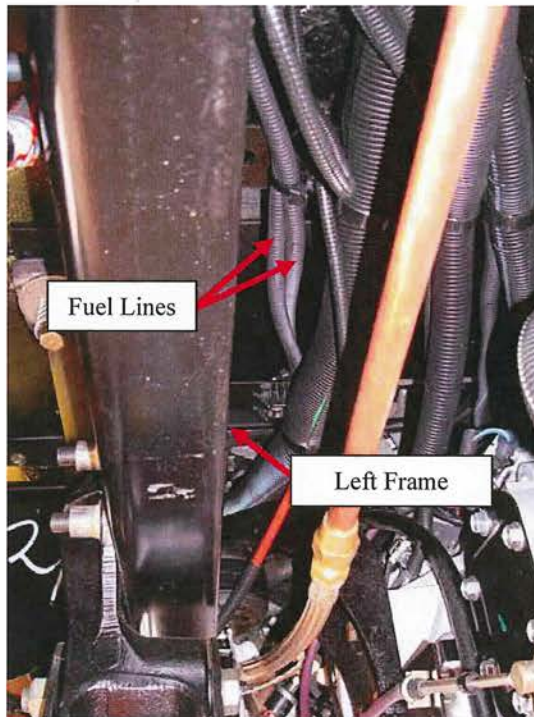
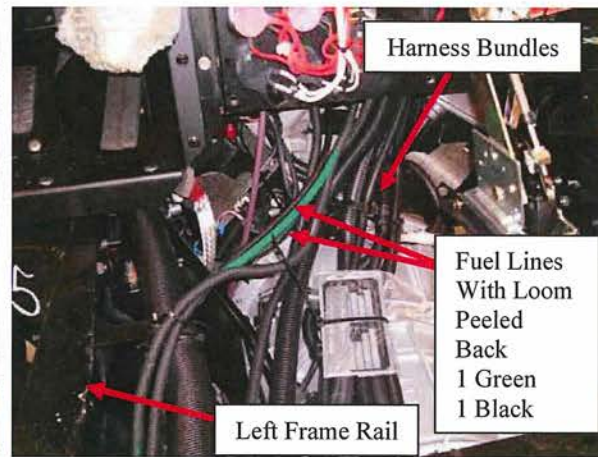

Figure 1
Figure 2
2. Locate and follow green and black propane fuel lines where they are routed above the transmission. Inspect propane fuel lines to see if they have been secured into the wiring harness bundle. Figure 1 shows a view from under the bus and the proper routing for the fuel lines. Figure 2 shows a view from the top with the body removed for reference.